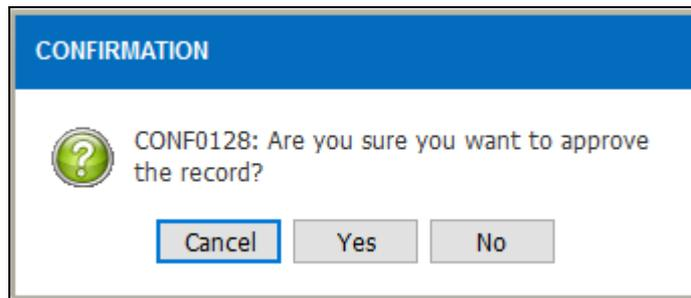

Figure 3.6-3 Approve Record Alert Message
- Click on the  button in Figure 3.6-3 followed by the  button in Figure 3.6-4.  button will be enabled for the user to proceed with sending the indent to desired external facility.